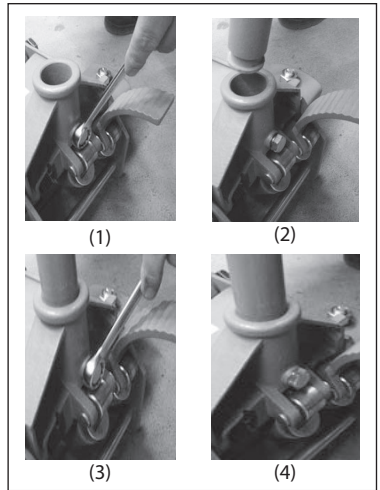

Fig. 04
- Now attach the lever rod to the lifting device. For this purpose remove the hexagonal screw SW17 at the support of the lifting device (Fig.04(1)) and place the lever rod into the support (Fig.04(2)). Fasten the screw again (Fig.04(3/4)).